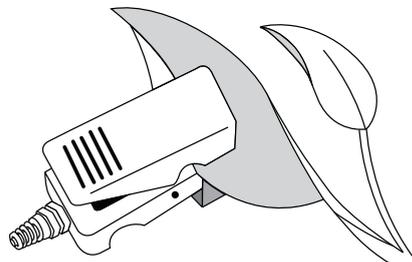

Figure 11 Leaf orientation during adaxial or abaxial conductance measurements
- Orient the leaf appropriately for the measurement. The dessiccant chamber must always be oriented down (Figure 11).